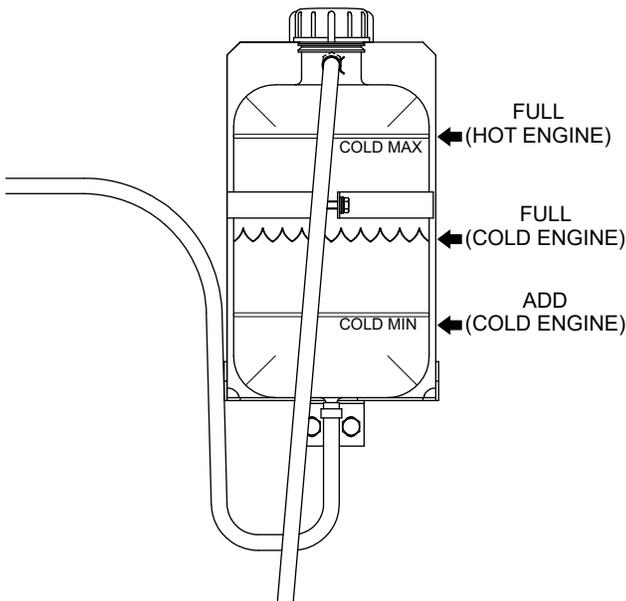

Figure 26. Coolant Reserve Tank
2. Check the level of the coolant in the **coolant reserve tank** (Figure 26):